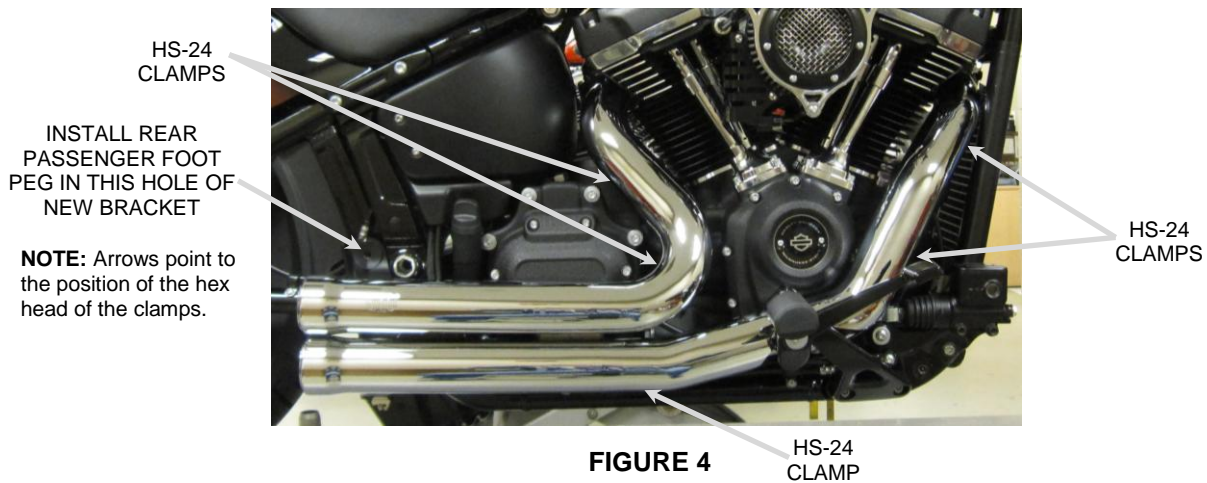

FIGURE 4
16. Unscrew the **HS-24** clamps and feed the tail end of the clamp through the clips on the inside of the heatshields. See **FIGURE 4** for proper positioning of the clamps on the heatshields. (NOTE: The arrows point to the positioning of the hex head of the clamps. The hex head of the clamps should be accessible for tightening but not visible when heatshields are mounted to the pipes.)
19. Install the rear heatshield the same way as the front heatshield. See **FIGURE 4**.
23. Install the right side passenger foot peg in the threaded hole on the new exhaust mount bracket. See **FIGURE 4**.